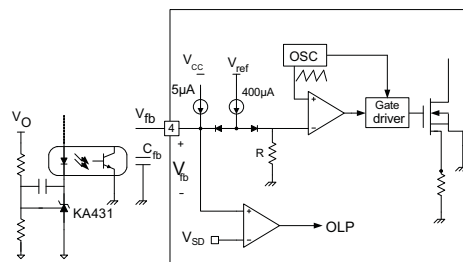

Figure 16. PWM and Feedback Circuit
**2. Feedback Control:** The FSQ100 is a voltage mode controlled device, as shown in Figure 16. Usually, an opto-coupler and shunt regulator, like KA431 are used to implement the feedback network. The feedback voltage is compared with an internally generated sawtooth waveform. This directly controls the duty cycle.